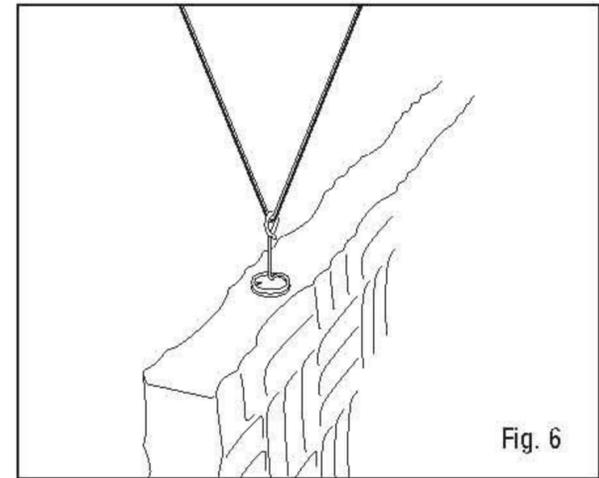
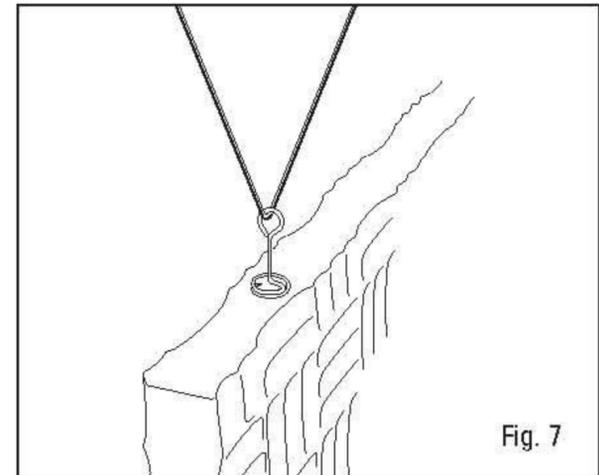

Fig. 6
Fig. 7
- C3. If installing SONEX® Valueline Baffles, slip the eye loop of the corkscrew over the cable (Figure 6). Turn the eye loops approximately 1/4 turn counterclockwise so the eye loop is perpendicular to the baffle, locking the cable in place (Figure 7).